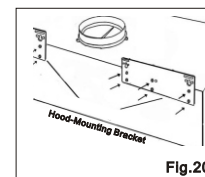

Fig.20
- Apply with twelve (3/16" x 3/8" ) screws (included) to fix the two hood-mounting brackets (included) to the back of the hood. (Fig.20 )